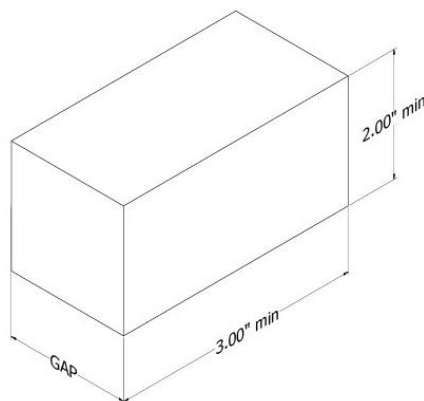

Figure 20: Illustration of spacer
- b. If gaps remain, fill them with spacers measuring at least 2" high x 3" wide (Figure 20). Recommended spacer materials include plastics with compressive yield strength greater than 20MPa. Examples of suitable material available from McMaster-CARR include: